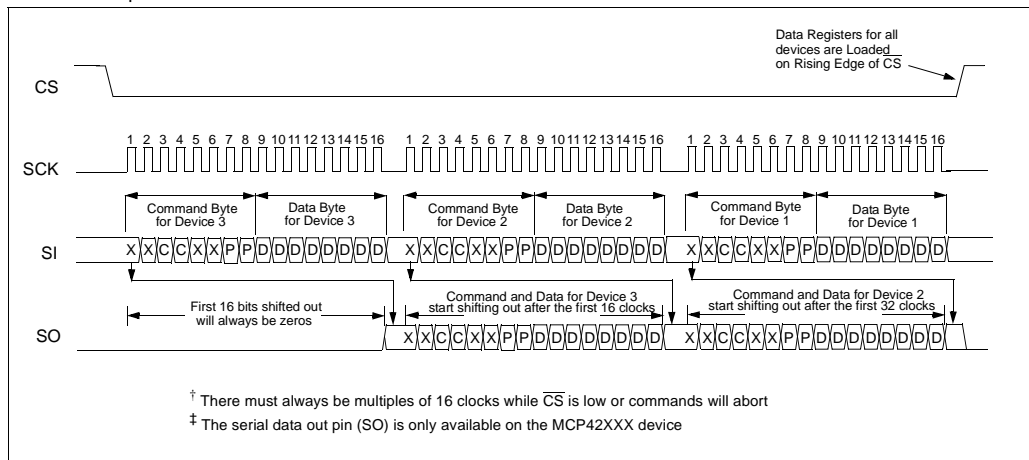
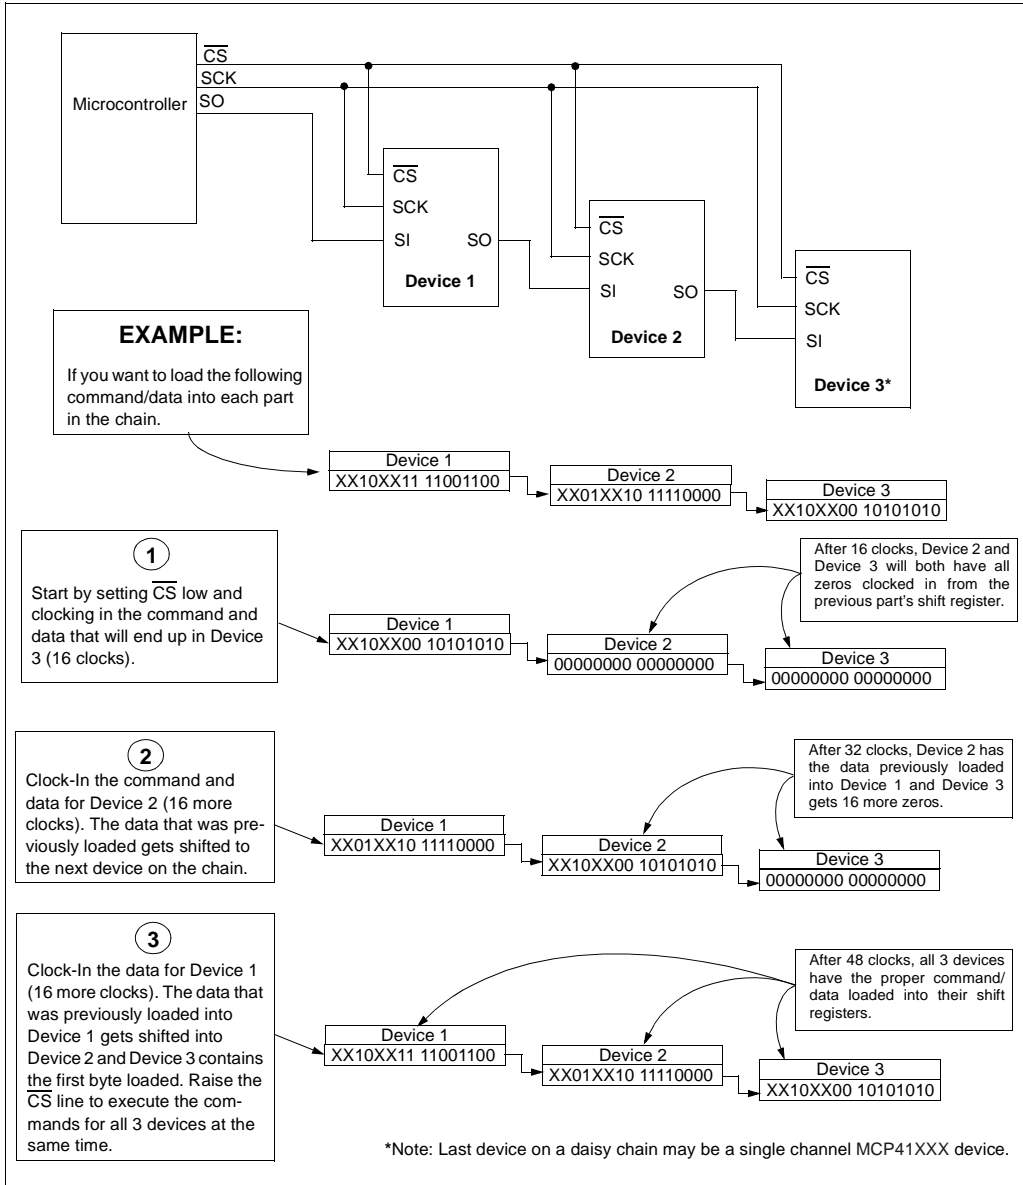

Figure 5-3: Timing Diagram for Daisy-Chain Configuration
Figure 5-4: Daisy-Chain Configuration
Multiple MCP42XXX devices can be connected in a daisy-chain configuration as shown in Figure 5-4, by connecting the SO pin from one device to the SI pin on the next device. The data on the SO pin is the output of the 16-bit shift register. The daisy-chain configuration allows the system designer to communicate with several devices without using a separate \overline{CS} line for each device. The example shows a daisy chain configuration with three devices, although any number of devices (with or without the same resistor values) can be configured this way. While it is not possible to use a MCP41XXX at the beginning or middle of a daisy-chain because it does not provide the serial data out (SO) pin, it is possible to use the device at the end of a chain. As shown in the timing diagram in Figure 5-3, data will be clocked out of the SO pin on the falling edge of the clock. The SO pin has a CMOS push-pull output and will drive low when \overline{CS} goes high. SO **will not** go to a high impedance state when \overline{CS} is held high.